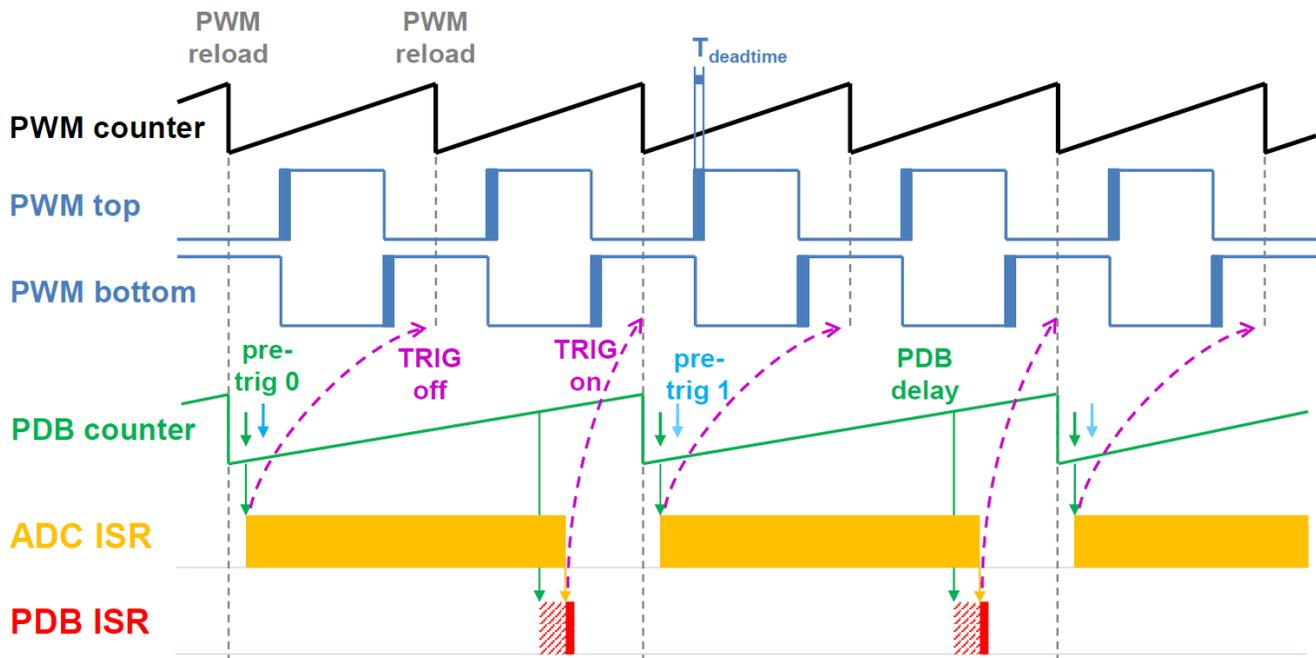

Figure 29. Hardware timing and synchronization on KE18F
A correct and precise timing is crucial in motor-control applications. The motor-control-dedicated peripherals handle the timing and synchronization on the hardware layer. The timing diagram is shown in Figure 29:
- The PDB Delay interrupt is enabled. This interrupt is generated when the PDB\_IDLY is reached. This interrupt enables the FTM\_TRIG (see Figure 29).